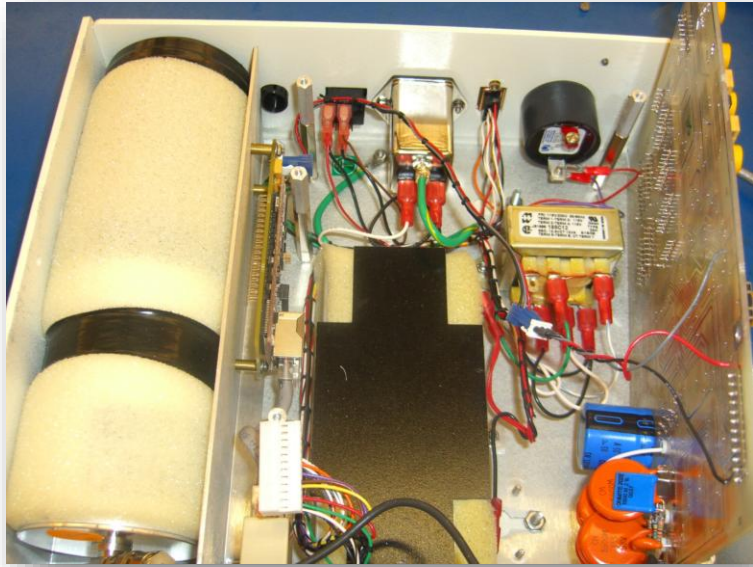

Figure 45 – Disconnecting the MTA Connector
1. Remove the outer case from the area monitor. See Figure 45.
2. Remove the four screws from the corners of the main board and disconnect the MTA connector. See Figure 45.